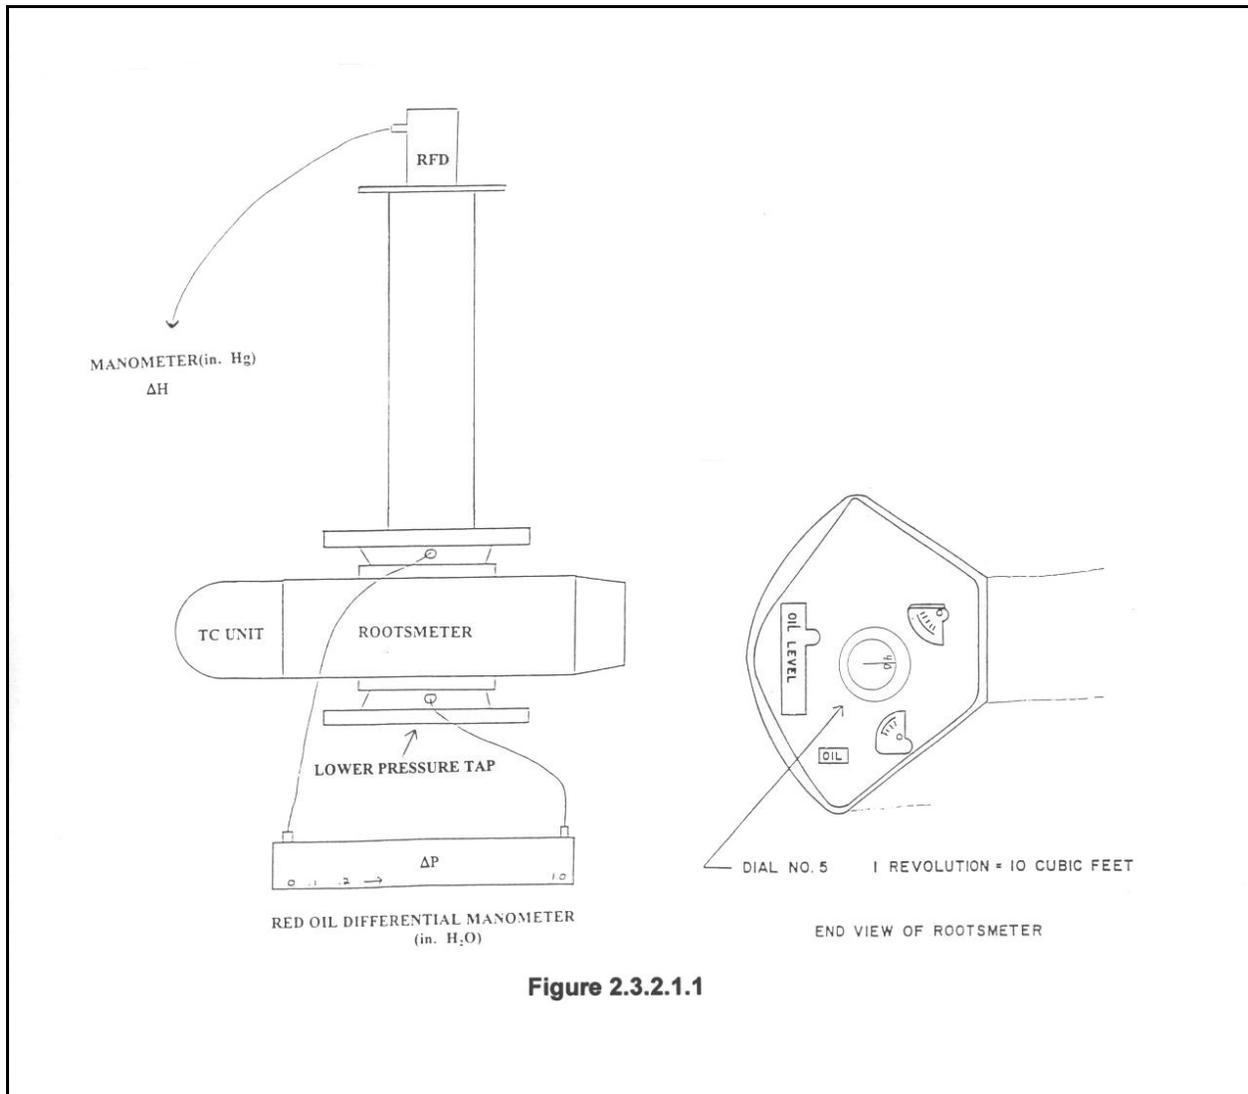

Figure 2.3.2.1.1
Set up is as depicted in the diagram depicted on Figure 2.3.2.1.1, p5.
Remove the lower pressure plug (see figure 2.3.2.1.1, p5) and install a tube connector fitting. **DO NOT** remove the oil drain plug on the bottom or the oil fill plugs on the top of the rootsmeter. Attach the "0 in." side of the differential manometer(P) to the upper vacuum tap on the side of the unit. Attach the "1 in." side of the differential manometer to the lower vacuum tap on the side of the unit (normally plugged). Install the Top Hat orifice on top with a 4 hole restrictor plate. Attach and turn on the digital manometer to the orifice side port(H). Install the PM-10 motor.
- c. Time the passage of 110 ft3 of air with a stop watch. Each revolution of the rootsmeter displaces 10 ft3 of air. Therefore, by counting 11 completed revolutions of the shaft (see figure 2.3.2.1.1,p5) as observed through the compensated temp gage equals 110 ft3.